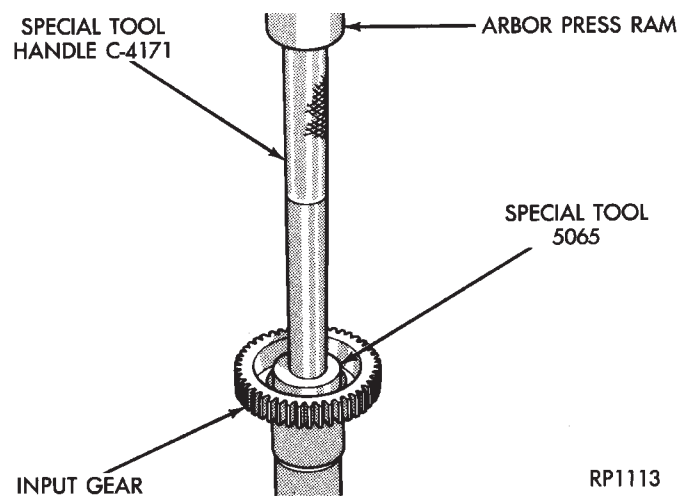

Fig. 34 Installing Mainshaft Pilot Bearing In Input Gear
(11) Install new pilot bearing in input gear with shop press, Tool Handle C-4171 and Installer 5065 (Fig. 34).